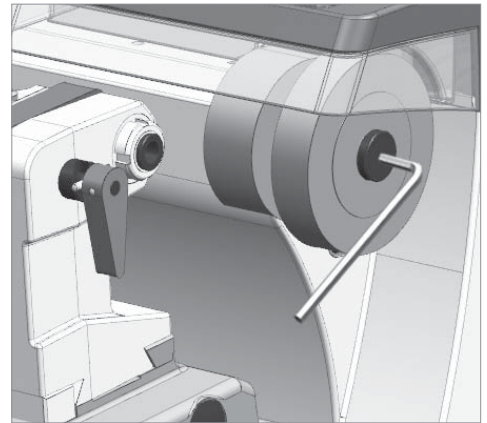

Fig. 38
- 2) Use the lever (Q) to lock the right-hand clamp in the horizontal position.
- 6) Fit a hex key into the brush screw (Fig. 38). Turn the brush clockwise manually and check that the cutter skims the calibration pin in a number of points.